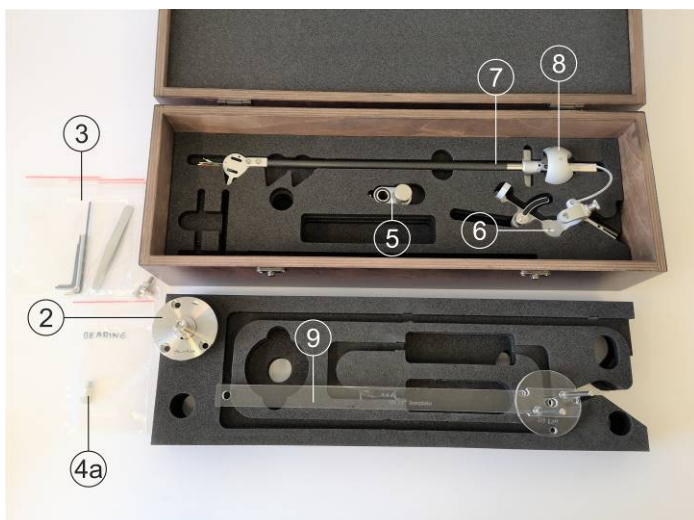
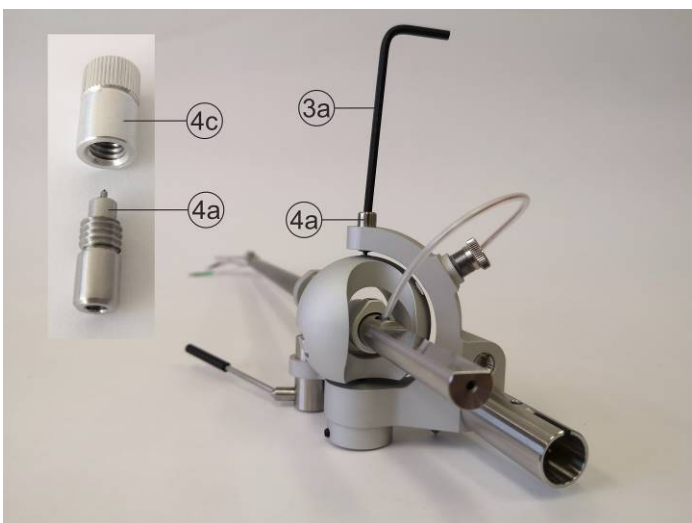

Figure 3
Figure 6
e) Take out the tonearm body [6] tonetube [7] and frame [8] (*Figure 3*).
- h) Screw out the top bearing [4a] (Figure 3, 6) from bearing protection [4c]. Take the hex (allen) key [3a] (Figure 6) from accessories [3] (Figure 3).
- c) Mount the tonearm onto a turntable using template [9] (Figure 3) and protractor [1] (Figure 1).